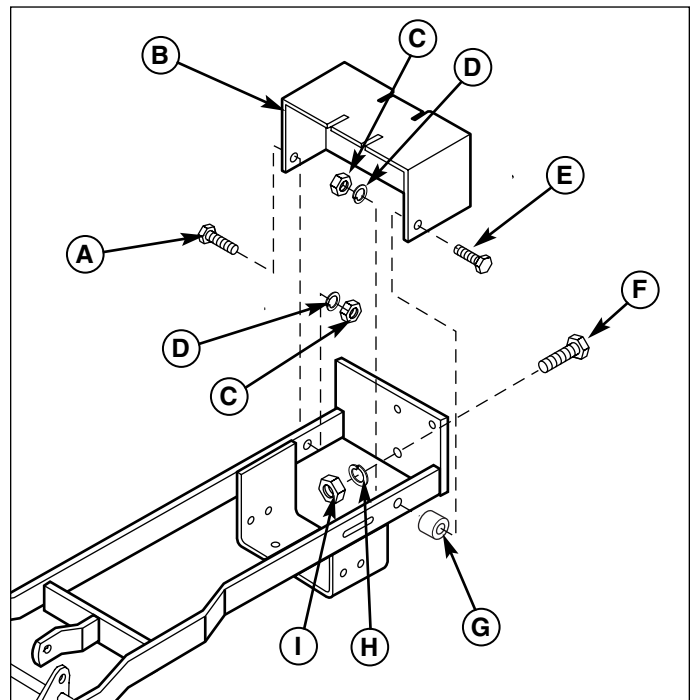

Figure 4. Install Rear Hitch Adapter
4. Position the rear hitch adapter (B, Figure 4) on the back of the hitch. Secure to the back hitch plate using a 5/8-11 x 1-3/4 capscrew (F), lockwasher (H), and nut (I).
6. Secure the right side of the hitch adapter (B) using a 3/8-16 x 1 capscrew (A), lockwasher (D), and nut (C).
7. Secure the left side of the hitch adapter (B) using a 3/8-16 x 3/4 capscrew (E), spacer (G), lockwasher (D), and nut (C).